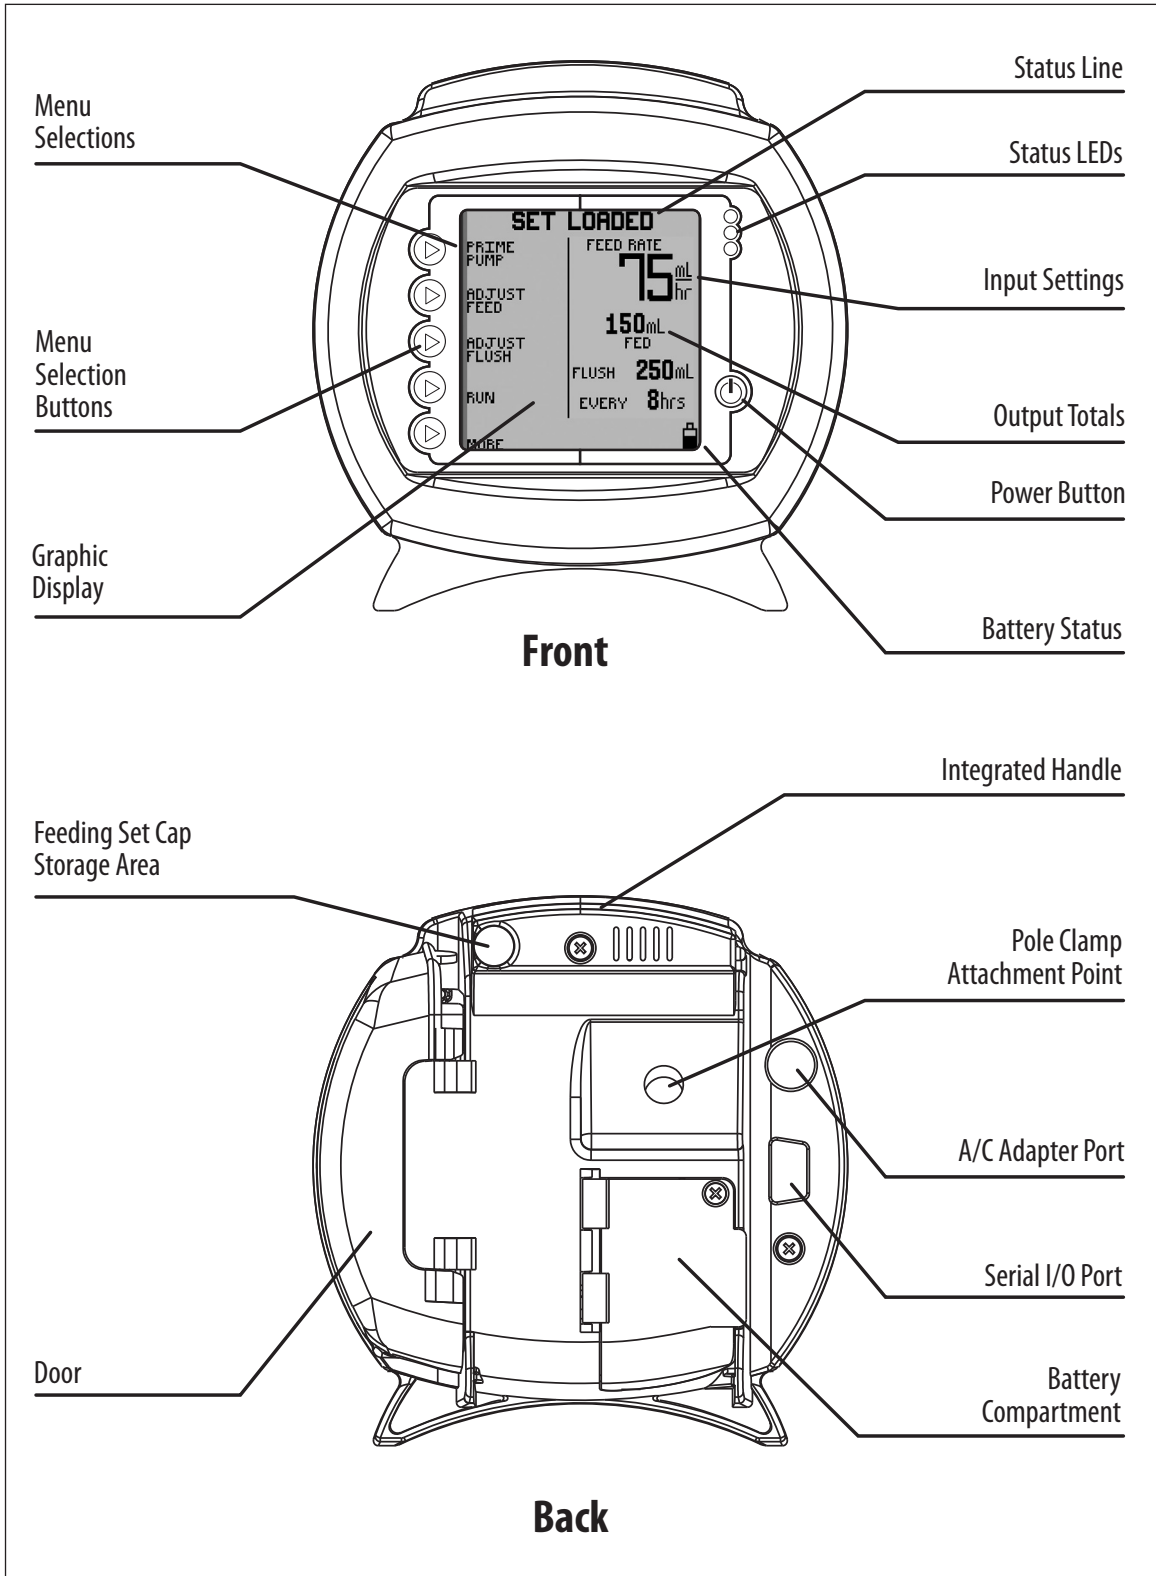

Figure 1A. Kangaroo™ Epump features, front and rear views.
13. **Warning:** The serial I/O port (see Figure 1A) is intended only for use with the approved communication cable (Part Number 382499).
Plug the A/C Power Adapter (Part Number 382491) into the A/C adapter port on the back of the pump. See Figure 1A to locate port on pump. Make note of the location of the pins and tab on the plug to properly orient the plug.